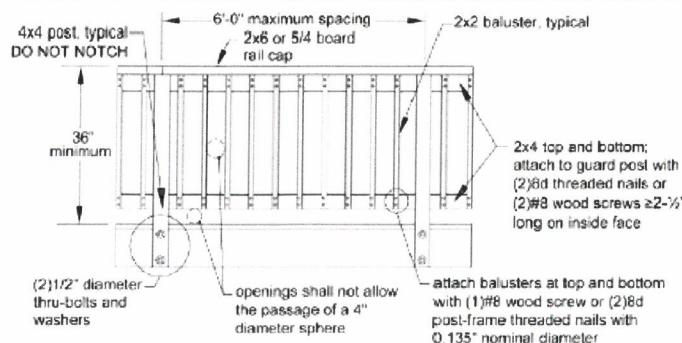

**FIGURE 1: TYPICAL DECKING**
- b. Wood decking may be placed at an angle of 45 to 90 degrees to the joists and attached per FIGURE 1. If wet, place decking with no gap so after drying a 1/8-inch gap is created